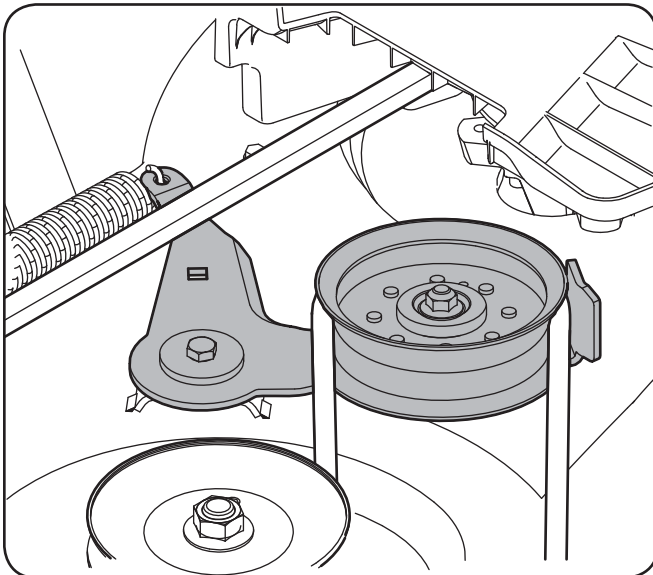

Figure 7-3
8. Working on the right side of the tractor, insert a $\frac{3}{8}$ " drive ratchet wrench, set to *tighten*, into square hole found on the idler bracket. See Figure 7-3.
9. Pivot the wrench forward to move the deck drive pulley forward. See Figure 7-3.